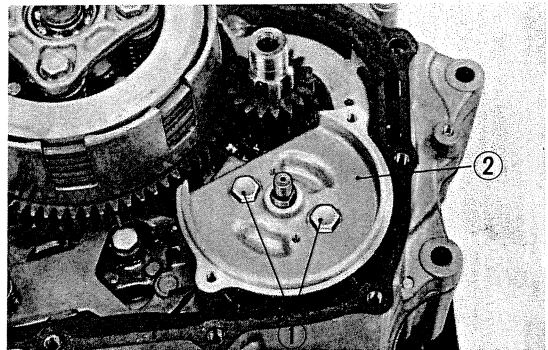

Fig. 58 Oil pump body removal
① Oil pump drive gear ② Shaft
- 7) Unscrew two 6mm oil pump body mounting bolts and then remove the pump body. (Fig. 58)